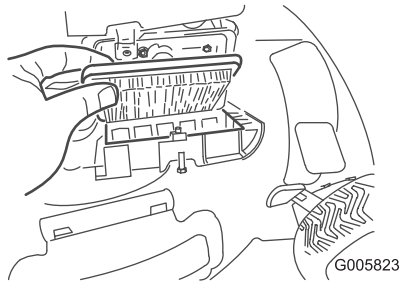

Figure 27
2. Replace the air filter (Figure 27).